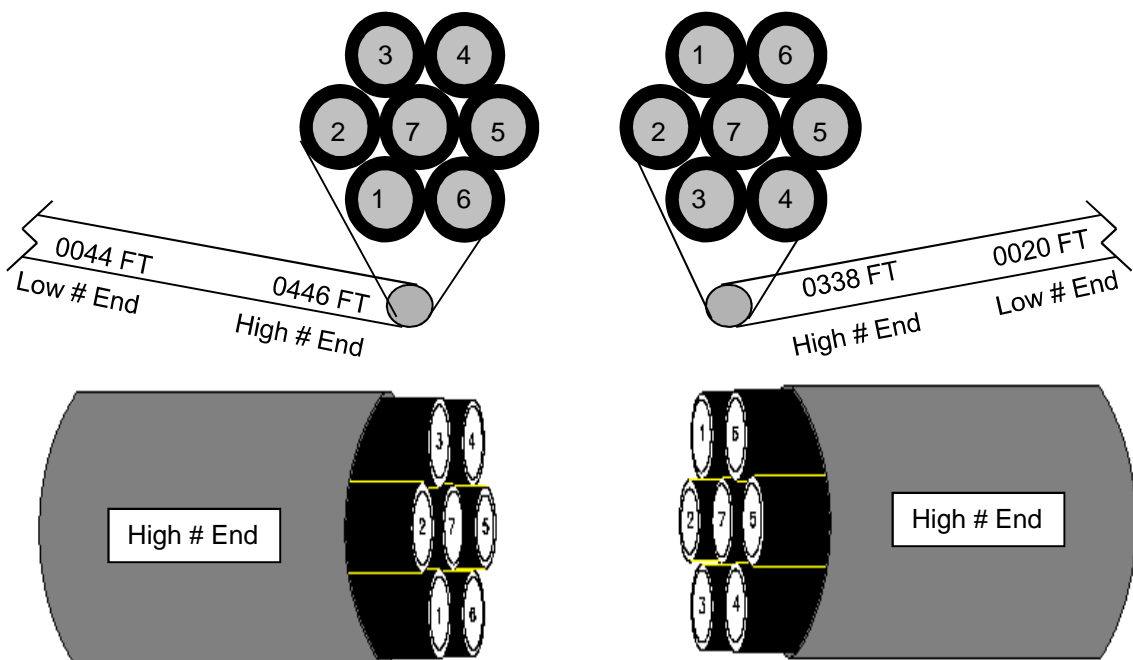

Figure 9
12.5 If the Low # End of one tube cable will mate to the Low # End of the other tube cable, when coupled, the tubes will be crossed or twisted and that condition is not desired. Same situation exists with a High # End mating to another High # End. (A Low-to-Low or High-to-High condition is bad.) **See Fig. 9.**